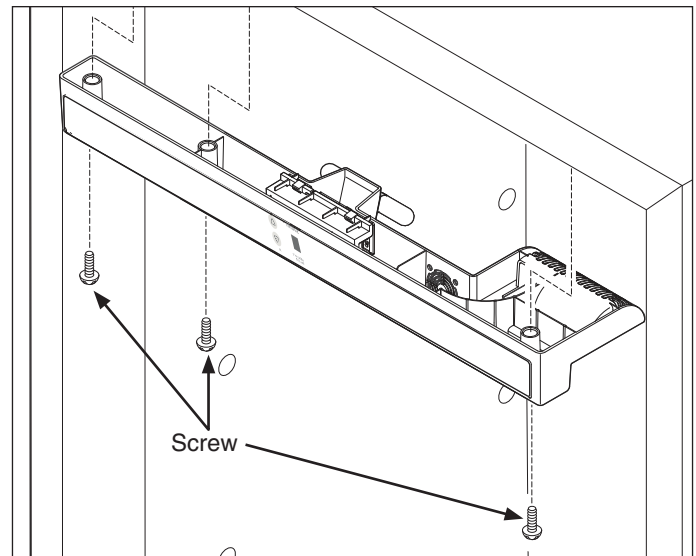

Figure 6-46. Control Box Removal
3. Extract the three screws securing the control box to the compartment ceiling. (See Figure 6-46)